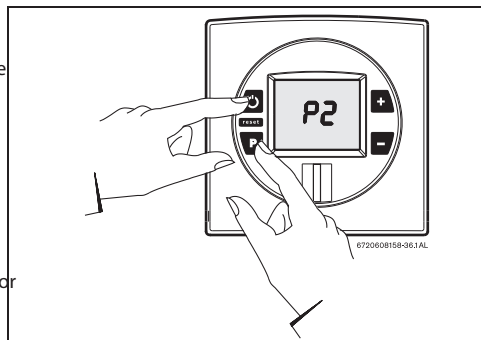

Fig. 44
While holding the Program (P) button, press the ON/OFF button to turn ON the heater (see Fig. 44).